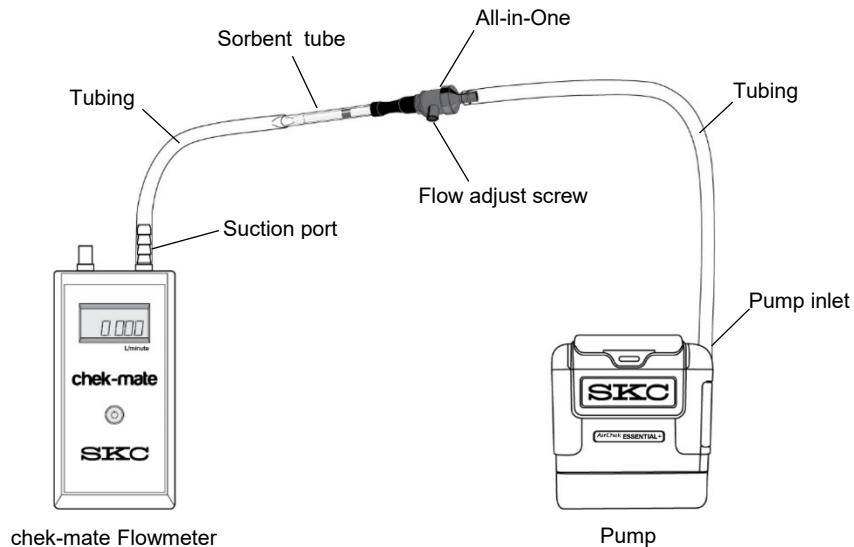

Figure 4. Flow Rate Verification Train (5 to 500 ml/min) for Single Tube
1. On the tube holder, insert an opened representative sorbent tube (arrow on tube pointing toward the pump) into the rubber sleeve on the port. *See Figure 4.*
Connect the flowmeter to the single sorbent tube or the first of multiple sorbent tubes as shown in Figures 4 and 5, respectively.
Verify Flow Rate with All-in-One (single tube, see Figure 4)